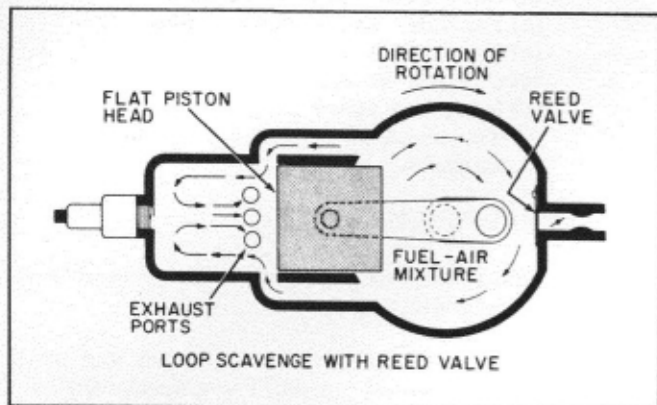

Figure 32
- (1) Figure 32 illustrates the loop scavenge design and uses the vacuum-pressure activated reed valve. Here the ports are located on three sides of the cylinder; the intake ports are located on two sides opposite each other and the exhaust ports are illustrated by the three holes just above the head of the piston.
- (2) A flat piston is used in this unit. As the mixture shoots into the combustion chamber through the two sets of intake ports it collides and is directed to the top of the combustion chamber looping when it strikes the cylinder head, thus forcing all spent gases out through the open exhaust ports before it.